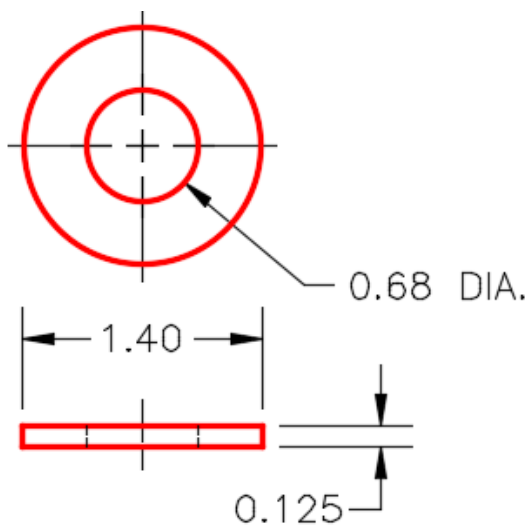

Figure Step 6A
Step 6 Draw a solid model of the washer on layer: Solid 8 using the dimensioned drawing as a reference. Draw a center line in the model. (Figure Step 6A and 6B)